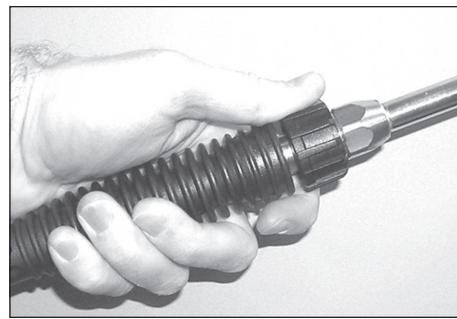

Figure 11 - Attach lance to gun
4. Attach the lance to the gun (see Figure 11).